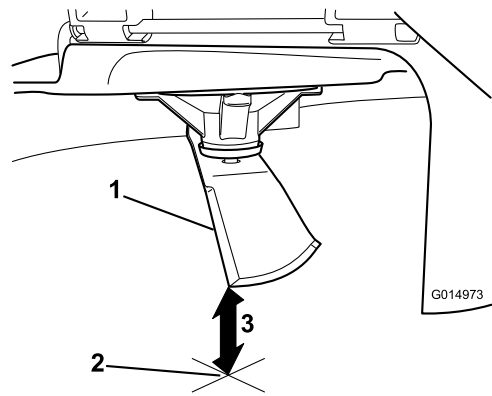

Figure 60
3. Measure from the tip of the blade to the flat surface (Figure 60).